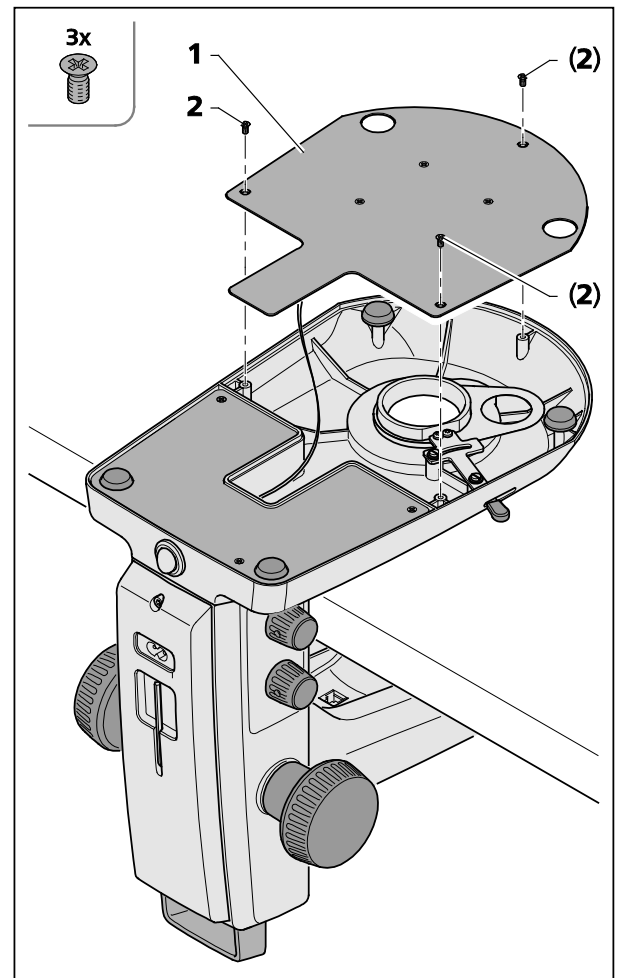

Fig. 23 Opening the stand cover plate,
The stand cover plate (Fig. 23/1) may be removed for cleaning or to remove any foreign matter which might have fallen in inadvertently.
- To this effect, release the three recessed head screws (Fig. 23/2), lift off the stand cover plate (Fig. 23/1) carefully and then put it aside.
- Make sure that the cable is not disconnected from the stand cover plate (Fig. 23/1).